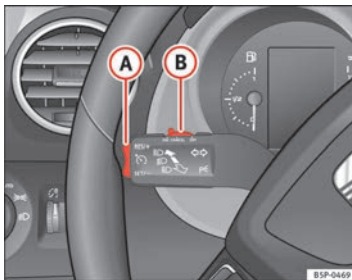

Fig. 151 Indicator and main beam headlight lever: switch and rocker switch for the cruise control
- Push the switch ⇒ fig. 151 **B** to the left to **ON**.